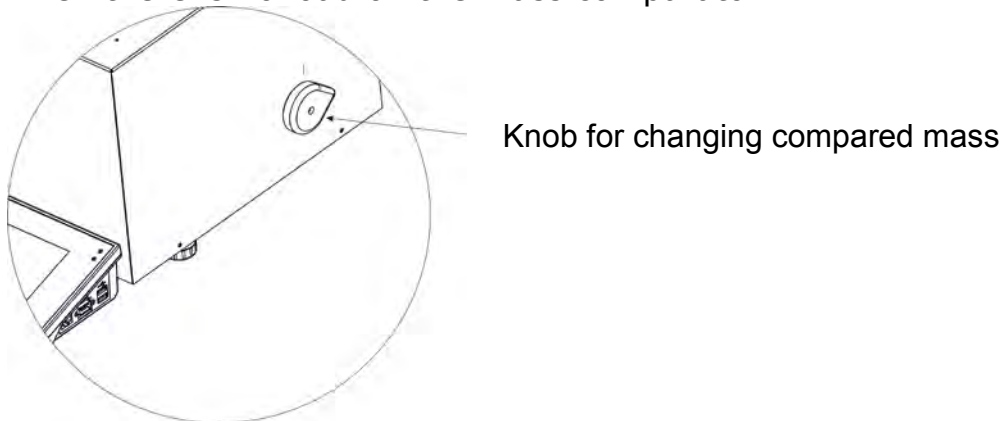
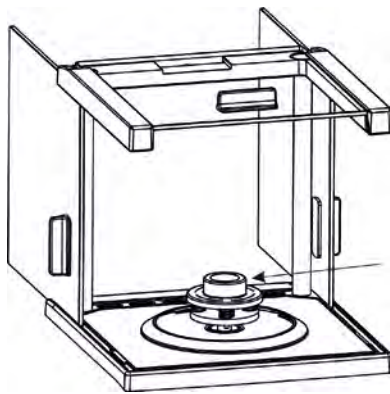

Fig.1
Fig.2
- Set internal and external supplementary weight (depending on mass comparator's type) to appropriate for mass of adjusted standard (use knob for setting supplementary weight) – see fig.1 and fig.2.
Set appropriate substitution weight of the weighing pan for adjusted mass standard (e.g. in case of mass comparator MYA 100.4Y/KO series), or set mass to be compared using a knob located on a side of mass comparator's housing, for instance: in case of a mass comparator WAY 500/KO series it is: 500, 200, 100. In case adjusted mass is 50g, then the knob has to be set on mass 100g and additionally, the weighing pan has to be loaded with a supplementary weight 50g (fig.1 and fig.2).